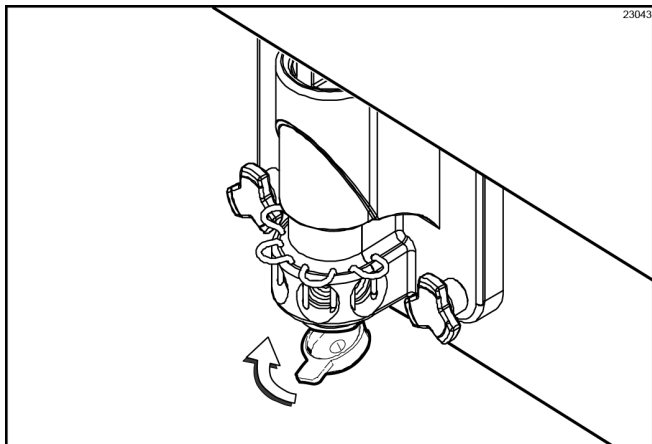

Figure-126
17. Snap the restrictor cap over the end of the door spout and install the syrup valve retainer pins. (See Figure-126.)